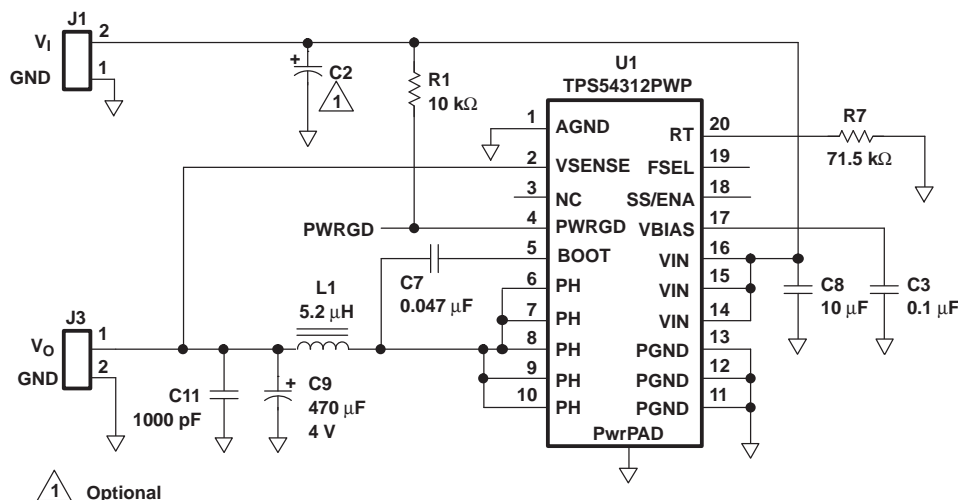

Figure 10. TPS54314 Schematic
(1) Specified by design
(2) Static resistive loads only
(3) Specified by the circuit used in Figure 10.
(4) To ensure proper operation when RC filter is used between external clock and FSEL pin, the recommended values are  $R \leq 1\text{ k}\Omega$  and  $C \leq 68\text{ pF}$ .
Figure 10 shows the schematic diagram for a typical TPS54314 application. The TPS54314 (U1) can provide up to 3 A of output current at a nominal output voltage of 1.8 V. For proper thermal performance, the PowerPAD underneath the TPS54314 integrated circuit needs to be soldered to the printed circuit board.